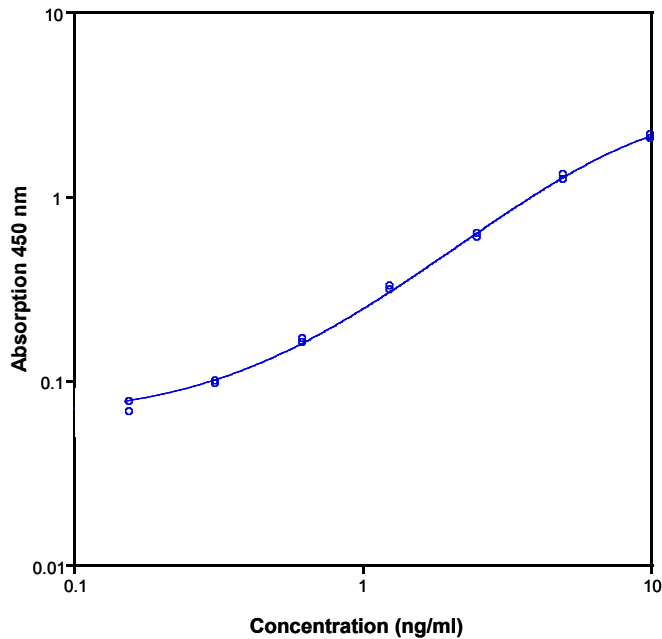

Fig. 8 Representative standard curve for human Fas-L ELISA. Human Fas-L was diluted in serial 2-fold steps in Sample Diluent.
- A representative standard curve is shown in Figure 8.